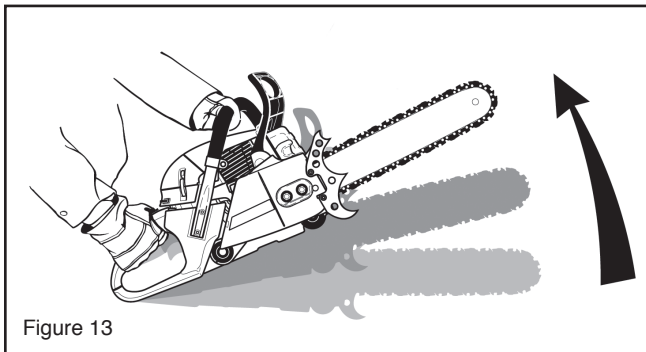

Figure 13
- Do not attempt plunge cuts (Figure 13) if you are not experienced with these cutting techniques.